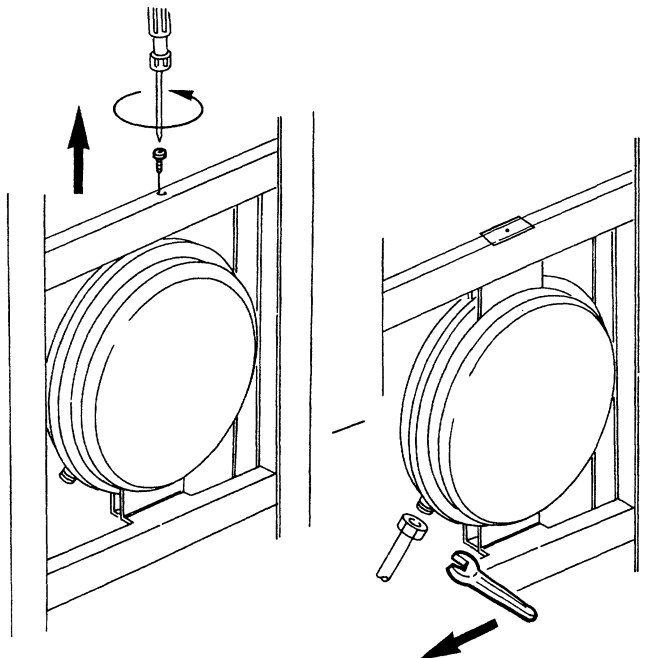

Fig. 58
**7.25 TO REMOVE/REPLACE THE CENTRAL HEATING EXPANSION VESSEL (fig. 58).**